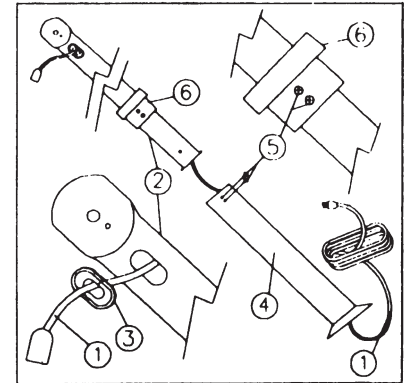

FIGURE 1
- Route motor connector end of the power cord (1) from the bottom of the chrome upper column (2) and out of the oval hole near the top. It may be necessary to use your finger or a pair of needle nose pliers to assist the connector through the oval hole. See figure 1.
- Route the other end of the power cord (1) through the lower column (4) such that the cord exits out the end of the lower column with the flange. Remove the two screws (5) from the collar (6) on the upper column (2). Slide the upper column (2) into the lower column (4). The collar (6) should be inserted into the lower column (4) such that the two threaded holes on the collar (6) line up with the two holes on lower column (4). Insert and tighten the two screws (5). See figure 1.
- Connect the power cord from the motor to the power cord routed through the pedestal column. Then place the oval shaped rubber grommet (3) around power cord at the oval hole and insert the grommet into the hole. See figure 1.